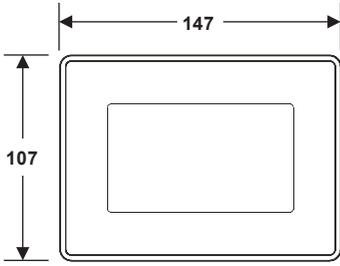

Fig. 2a
- Provide a control panel cut-out with the dimensions indicated in Figure 2a and 2c.